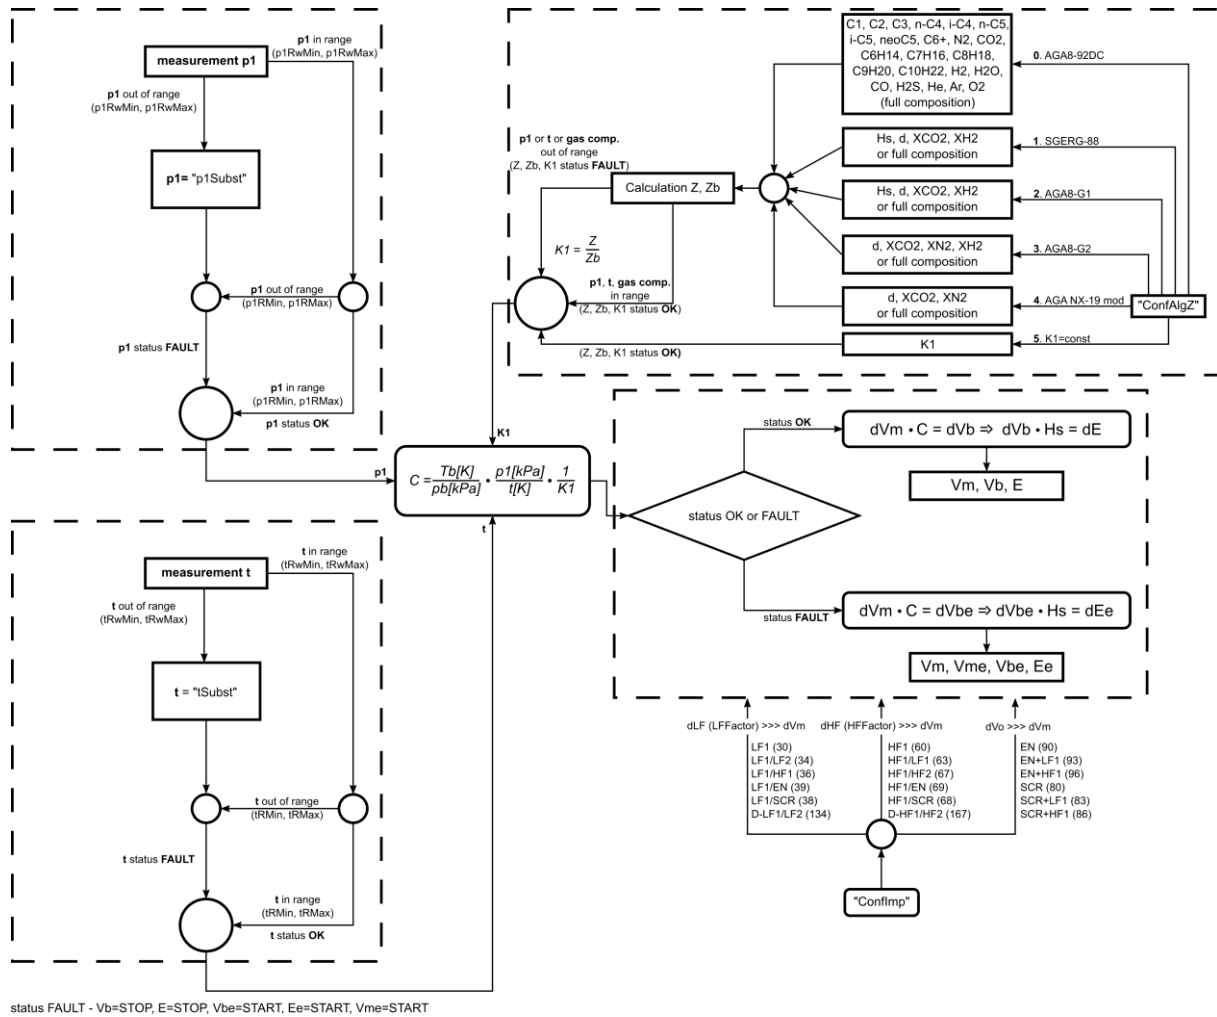

Figure 1. Diagram of calculation algorithm operation
- pressure $p1$ and temperature t , coming from modules at the left side of Figure 1.